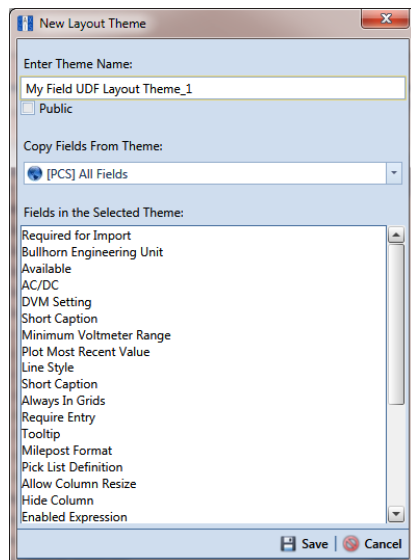

Figure 3-31. New Layout Theme
- 3 Click  **Add** to open the *New Layout Theme* dialog box (Figure 3-31).